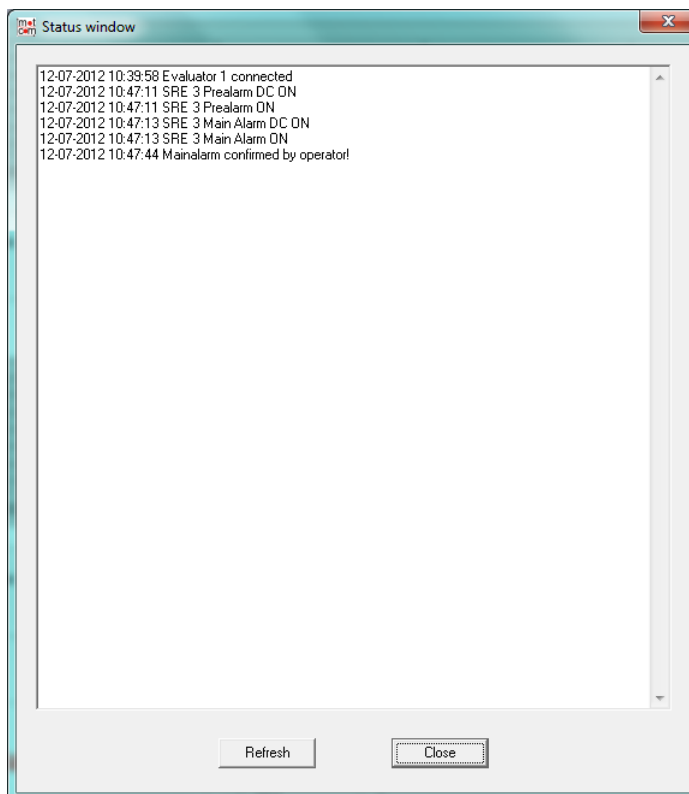

Fig. 8.2 Example of messages displayed in the event window / status window
- If the connection is established, this is confirmed by a “Connected” message in the event window. (Fig. 8.2 on next page)
The error messages displayed in Data_Logger are self-explaining, i.e. a communication problem with the Evaluator is depicted in Fig. 8.2 below.